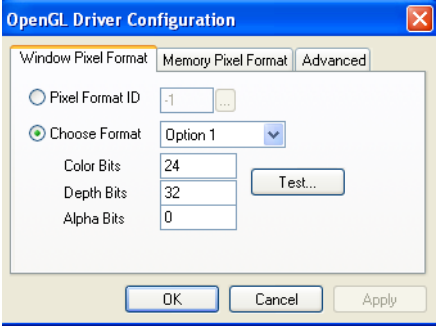

Figure 5-77: *OpenGL Driver Configuration* dialog box
4. In the OpenGL Driver Configuration dialog box (figure 5-77), select **Pixel Format ID** and enter this number.